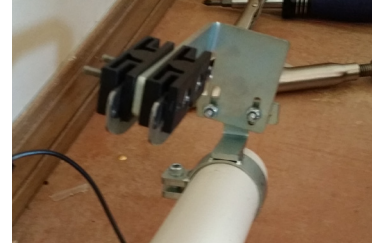

Figure 3-32
1. Install the charging station on the rail. *See Figure 3-32.*